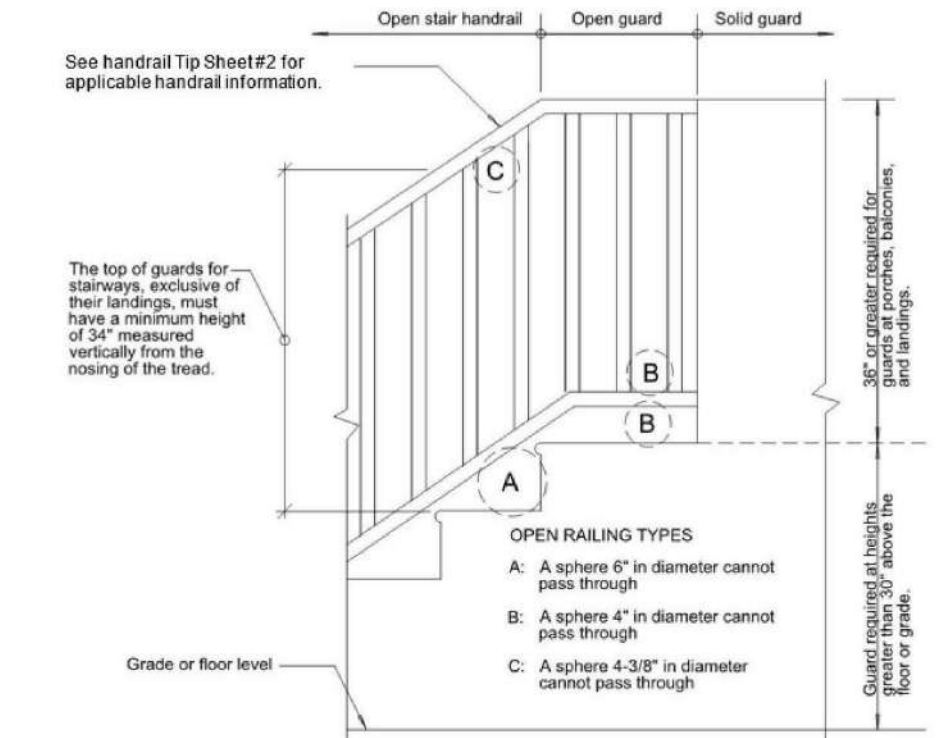

Figure 1: Guard Elevation (IRC R312)
- Guards shall comply with IRC R312.1; refer to Figure 1 for major requirements.